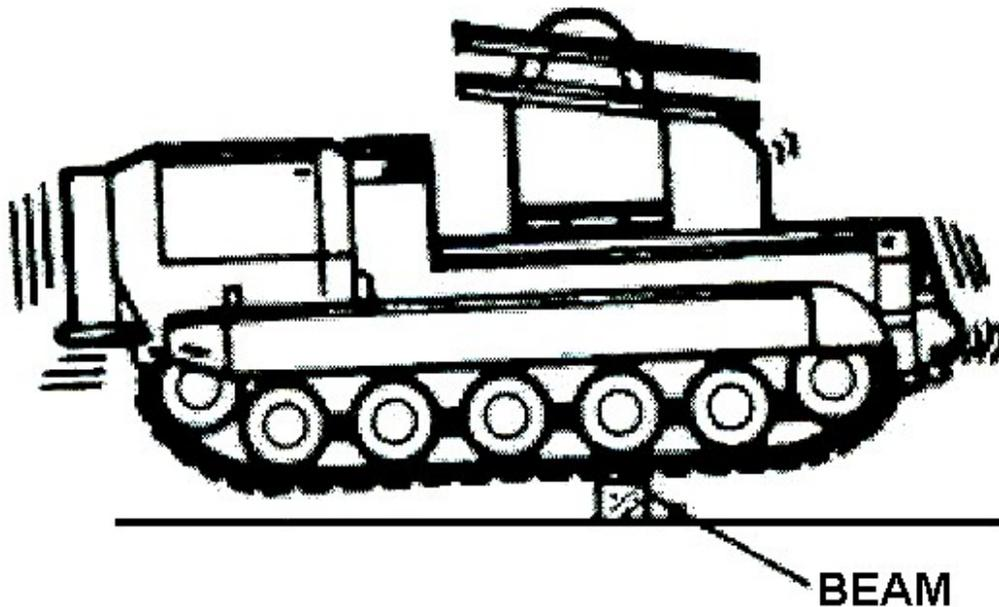

Figure 3-12
- a. Order driver to drive the vehicle onto a wooden beam or pole until the vehicle tilts forward (see Figure 3-12).